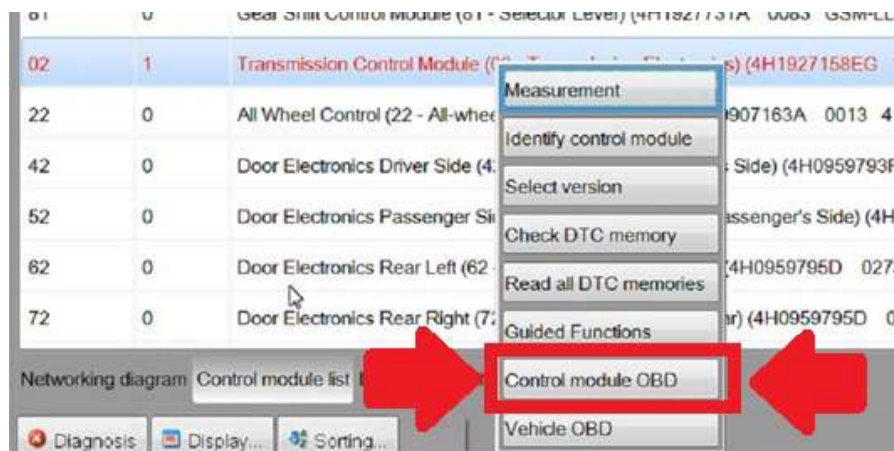

Figure 1. Selecting "Control module OBD".
4. Select "Control module OBD" (Figure 1).